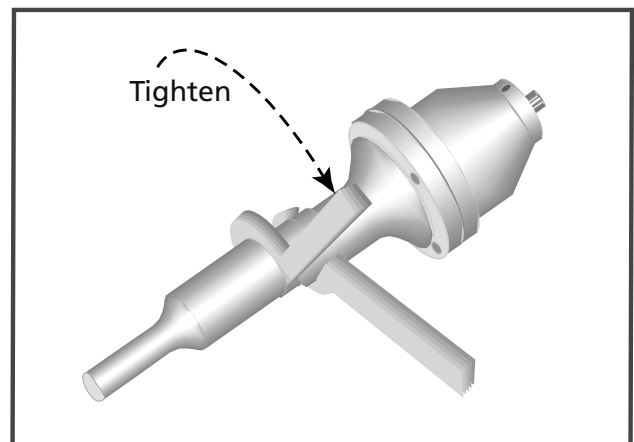

Figure 10–4 Stack Assembly Procedure
6. Thread the components together and tighten to the following torque specifications using only the correct size wrenches. Use spanner wrenches on components with spanner wrench holes or an open end wrench on components with wrench flats. See Figure 10–4 for the correct procedure. Refer to Table 10—II for torque units conversions. Be careful not overtighten.